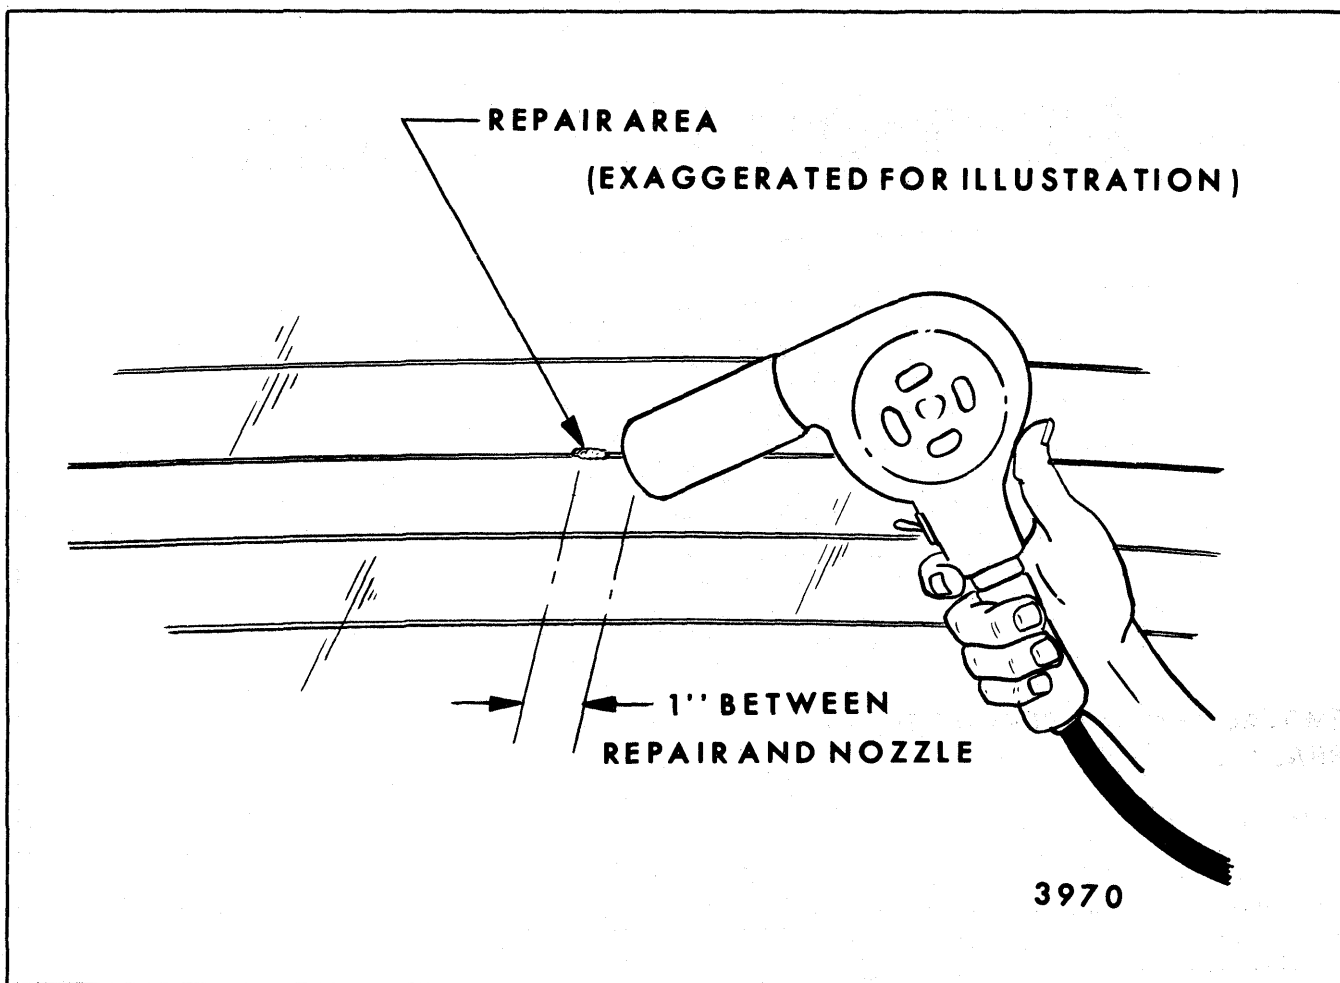

Fig. 10-29-Applying Heat to Grid Line Repair
9. Apply a constant stream of hot air directly to the repaired area with a heat gun (preferably 500 degrees F. to 700 degrees F. range) for 1 to 2 minutes. Heat gun nozzle should be held approximately 1 inch from repair (minimum of 300 degrees F. is essential for establishing conductivity) see Figure 10-29.